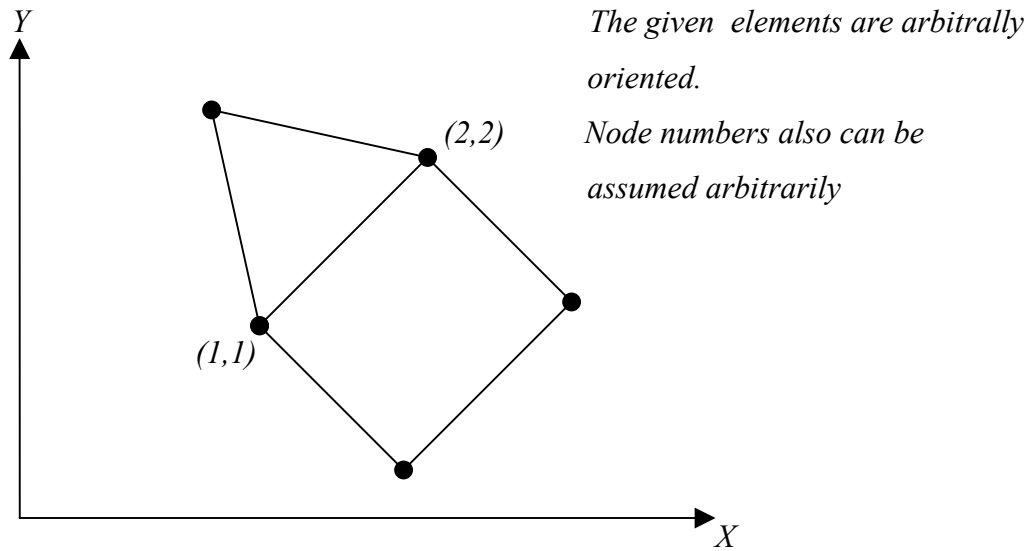

Figure 3. Isoparametric elements
Q.3. Two different isoparametric elements are used together as shown in Fig.3. There is inter element boundary between $(x, y) = (1,1)$ and $(x, y) = (2,2)$. Show that the variable is continuous and compatible across the interface boundary. The interpolation function for the triangular element is $u = a_0 + a_1x + a_2y$, and for the quadrilateral element is $u = b_0 + b_1x + b_2y + b_3xy$.